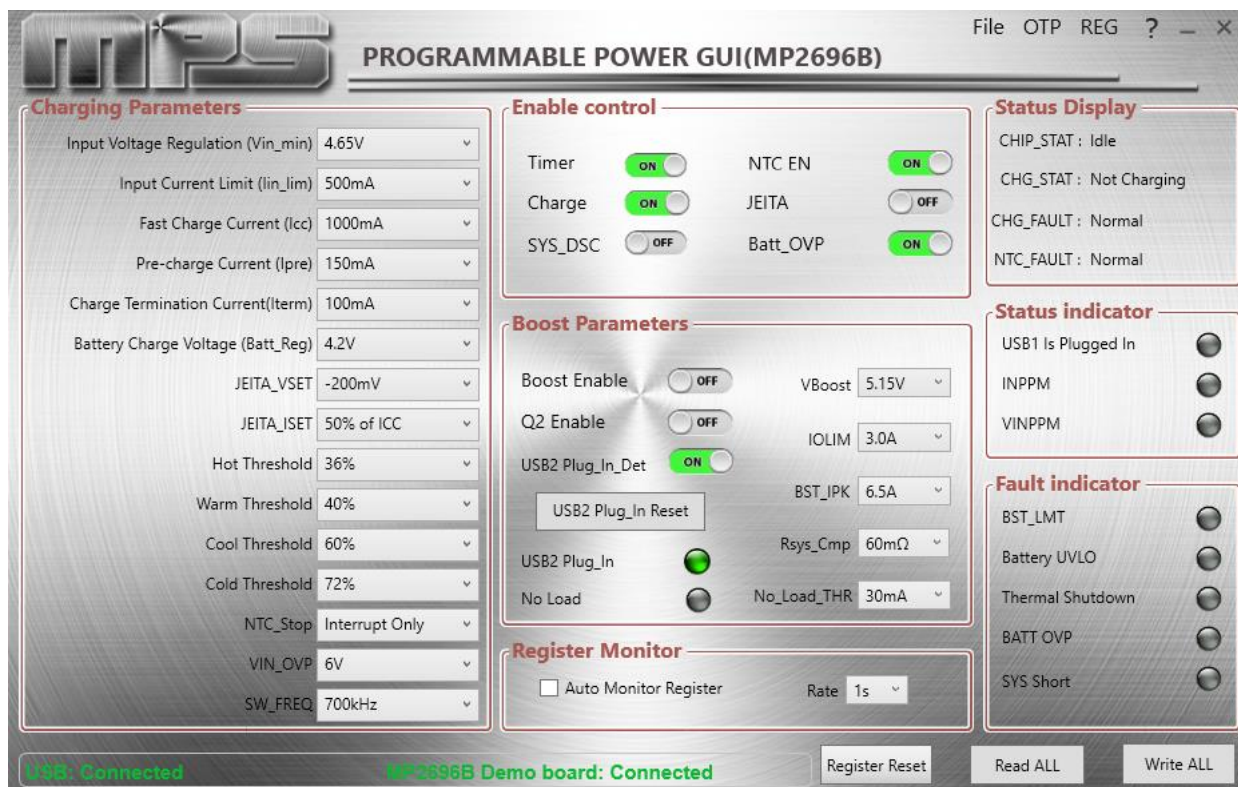

Figure 6: Connected USB and MP2696B Demo Board
- If connection is successful, both the USB and the MP2696B demo board statuses will be listed as “Connected” in green (see Figure 6).
- 2. Click the “Read All Register” button to read the I²C register values. The default values should be displayed (see Figure 6).